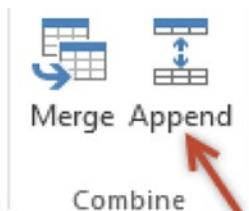

Figure 23-26. Appending two queries using the Append feature of Power Query
1. To do this, go to the Power Query tab and click Append in the Combine group (see Figure 23-26).